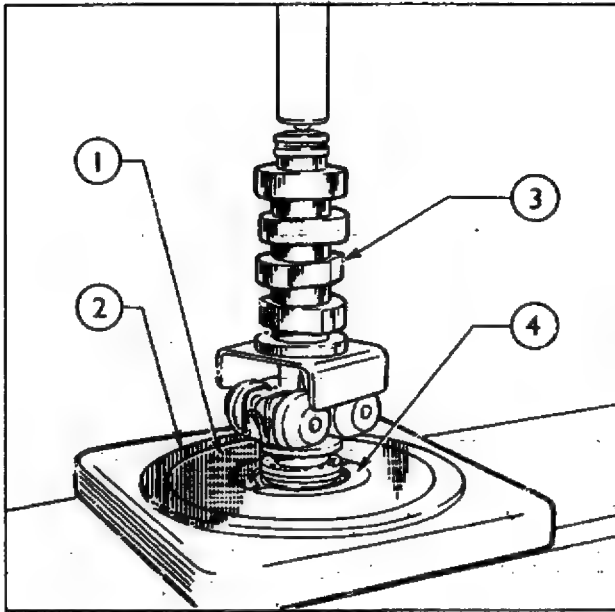

Fig. 27
13. For GE Mass Governor:—Assemble the governor backplate locating it on its dowel and securing it to the camshaft with the special high tensile steel screws, using new locking plates with one fitted over the dowel. Bend up the tabs of the locking plates to retain the screws after tightening to 12.2 Nm (1.24 kgf m or 9 lbf ft) torque. Assemble the governor weight carrier assembly thrust bearing, thrust pad and oil slinger to the camshaft. Replace the front bearing inner race together with the remainder of the selected shims, using the same tools as for the rear face (see Fig. 27).